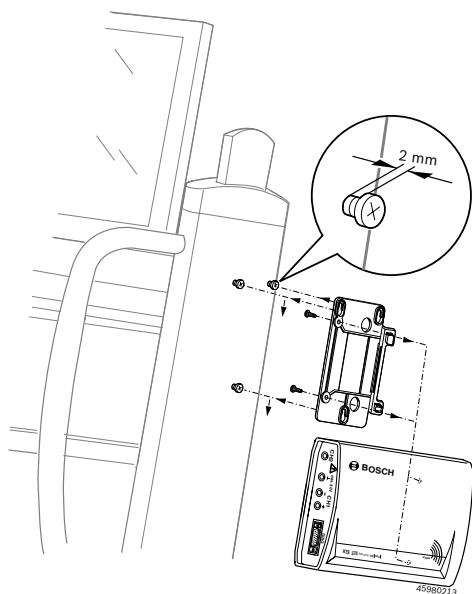

Fig. 4 Assembly mount
1. Screw in the three fillister head screws on the Bosch trolley (see Fig. 4).